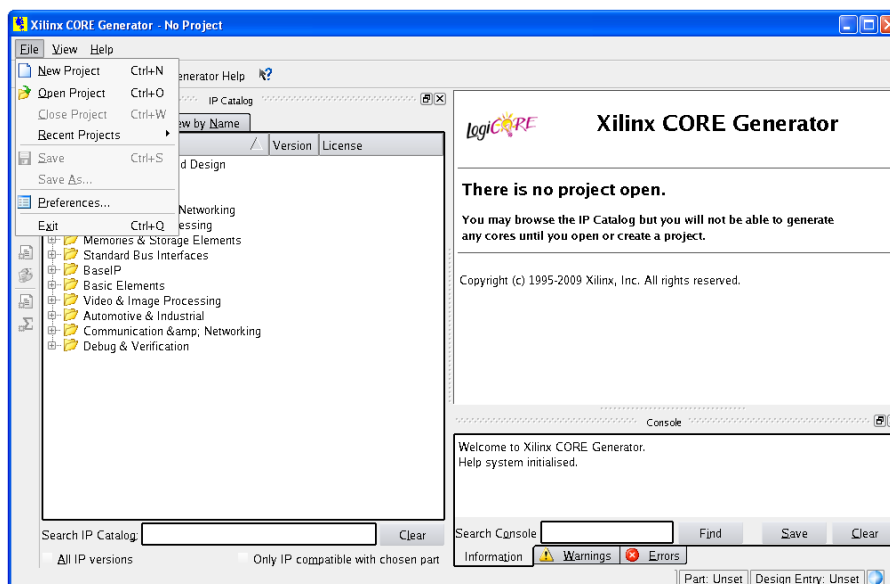

Figure 3-2: Starting a New Project
3. Choose **File** → **New Project** (Figure 3-2).